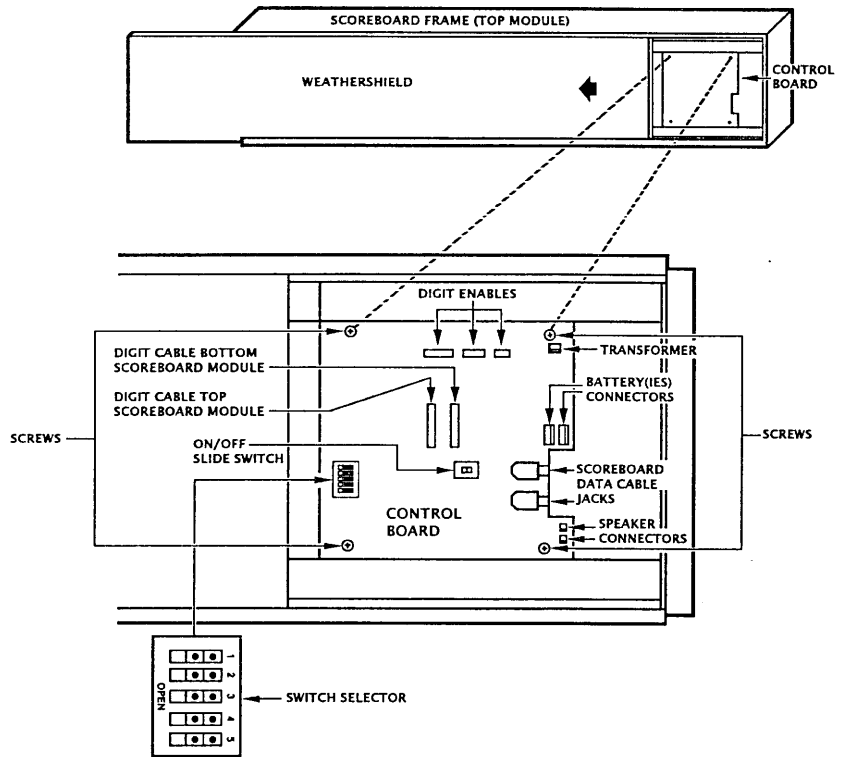

Figure 31 - #2860 Control Board
- Step 4** Route the data cable through the rear panel cover and plug the two-pin connector into the two 1/4 inch phone jacks. Check your data cable wiring and connectors using Fig. 31 or 32 on page 5-3.
When your scoreboard is powered by battery only (i.e. 115 VAC wall plug is not connected), you must observe the position of the ON/OFF switch located on the control board. Refer to Fig. 31 or 32 on page 5-3. This switch disconnects all battery power from the scoreboard system when it is in the OFF position. When not using your scoreboard, you should always leave this switch in the OFF position. Unplugging the external battery cable from the scoreboard will serve the same purpose. If left in the ON position, the circuits in the scoreboard will continue to drain power from the battery and will deplete the power supply.
Your external battery pack, Model BP-3 (replaces Model BP-1) was shipped with a 10-foot battery extension cord. This cord allows you to connect power to your scoreboard even if it is mounted high off the ground. To connect the power cord, route the extension cord through the rear panel cover and plug the connector into one of the two receptacles designated for batteries. Refer to Fig. 31 or 32 on page 5-3. You can use either one of the two receptacles. We suggest that you locate the mating end of the cable where it will be accessible from the ground. Anchor the cable along its complete run (e.g., down the pole leg for a pole mount system).